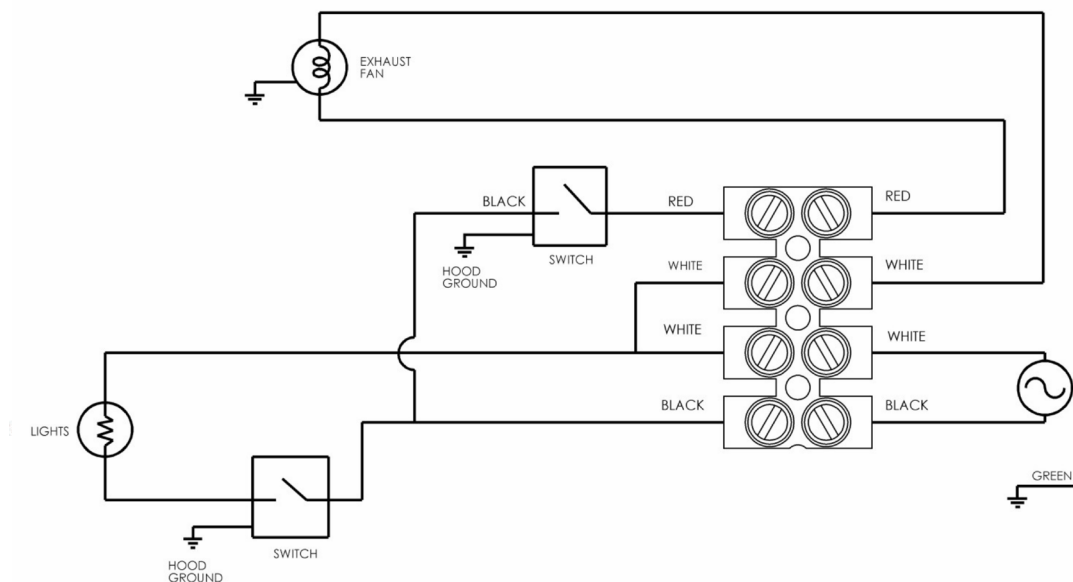

FIGURE 8: WIRING DIAGRAM
2. Referring to the Wiring Diagram displayed in FIGURE 8, connect the black and white wire of the power cable to the blank locations on the terminal block. Make sure: